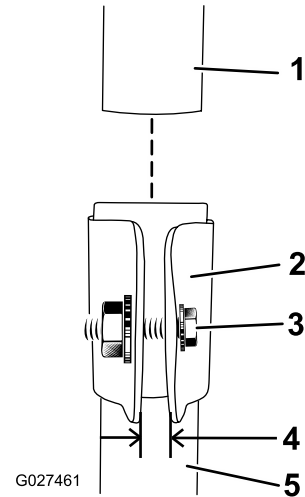

Figure 2
1. Slide the upper pole into the lower pole, lining up the groove in the upper pole with the groove in the lower pole, and tighten the screw until the gap between the ends of the clamp is 3 mm (1/8 inch) (Figure 2).